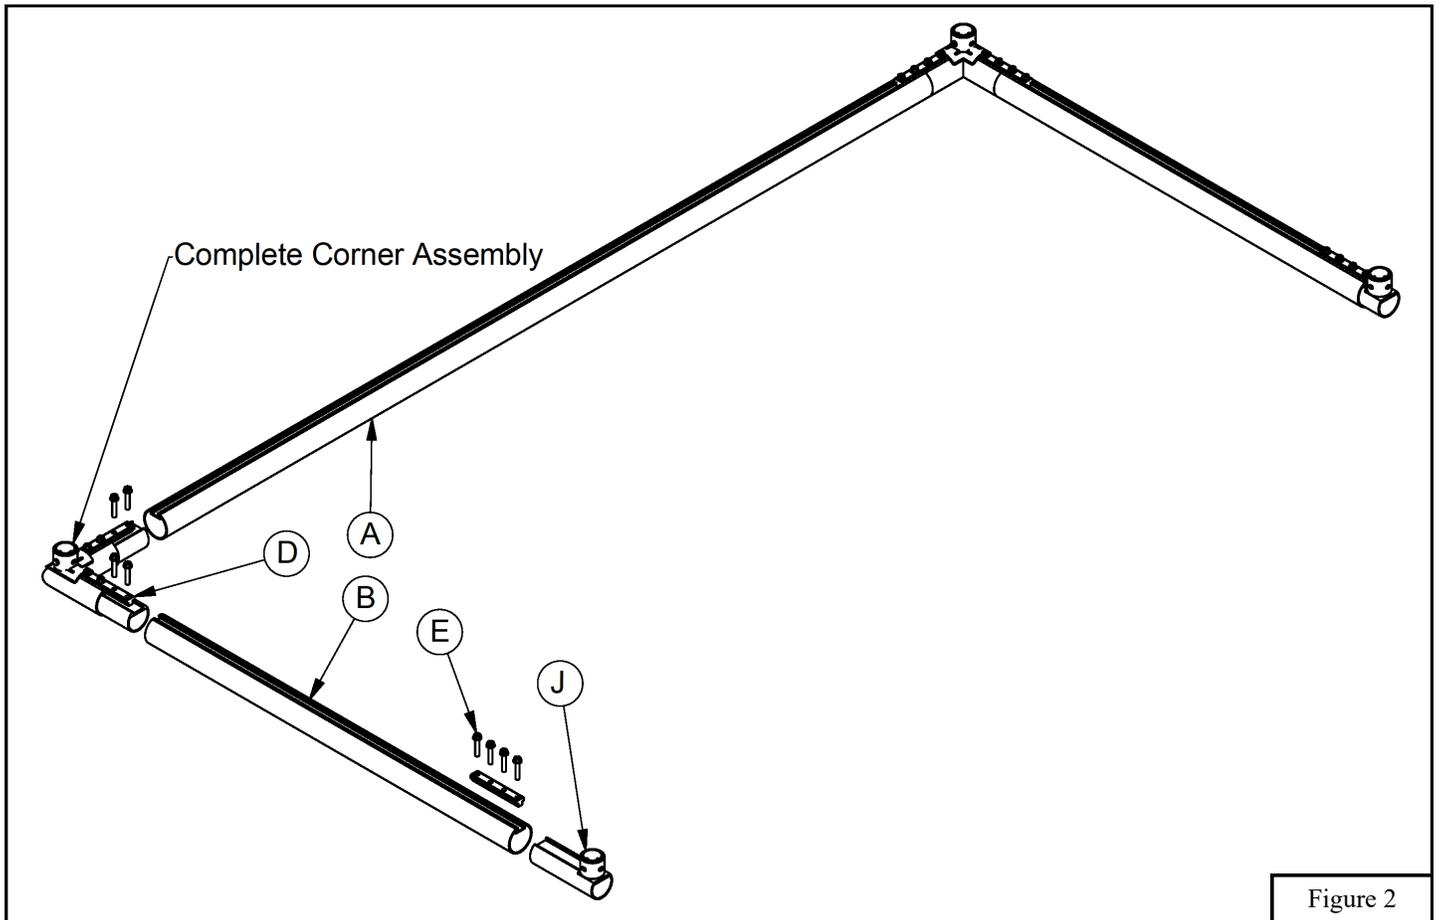

Figure 2
3. Insert the complete corner assemblies into *Crossbar* (A) making sure the ends of the *Corner* (I) and *Crossbar* (A) are tight with no gap. Drill a 5/16" hole through each of the mounting holes in the *Connecting Bar* (D) through the assembly. Install the 3/8" X 2" *Self Threading Machine Screws* (E) into the previously drilled holes. Check to confirm *Corner* (I) and *Crossbar* (A) are tight with no gap then **tighten** all the 3/8" X 2" *Self Threading Machine Screws* (E). Repeat 4 times per pair of goals. See Figure 2.
4. Insert *Bottom Backstay Socket* (J) into the bottom of *Upright* (B). Lay the *Connecting Bar* (D) into the channel flush with the bottom of *Upright* (B). Drill a  $5/16''$  hole through one of the mounting holes in the *Connecting Bar* (D) completely through the assembly and install a  $3/8'' \times 2''$  *Self Threading Machine Screw* (E) into the drilled hole. Check to confirm *Bottom Backstay Socket* (J) is fully engaged into the *Upright* (B) then repeat the process with  $3/8'' \times 2''$  *Self Threading Machine Screws* (E). **NOTICE!** Use care when tightening the  $3/8'' \times 2''$  *Self Threading Machine Screws* (E). **Do Not Over Tighten.** Repeat at 4 locations per pair of goals. See Figure 2.